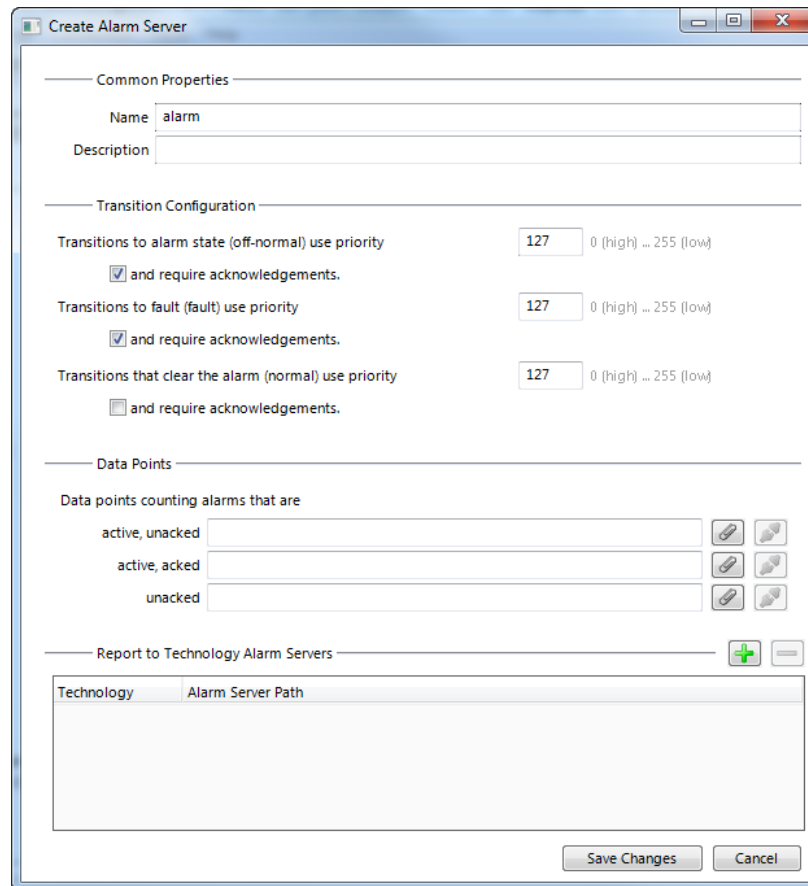

Figure 88: Create New Alarm Server dialog box.
3. In the **Create New Alarm Server** dialog box (as shown in Figure 88) enter **Name** and **Description** of the alarm server.